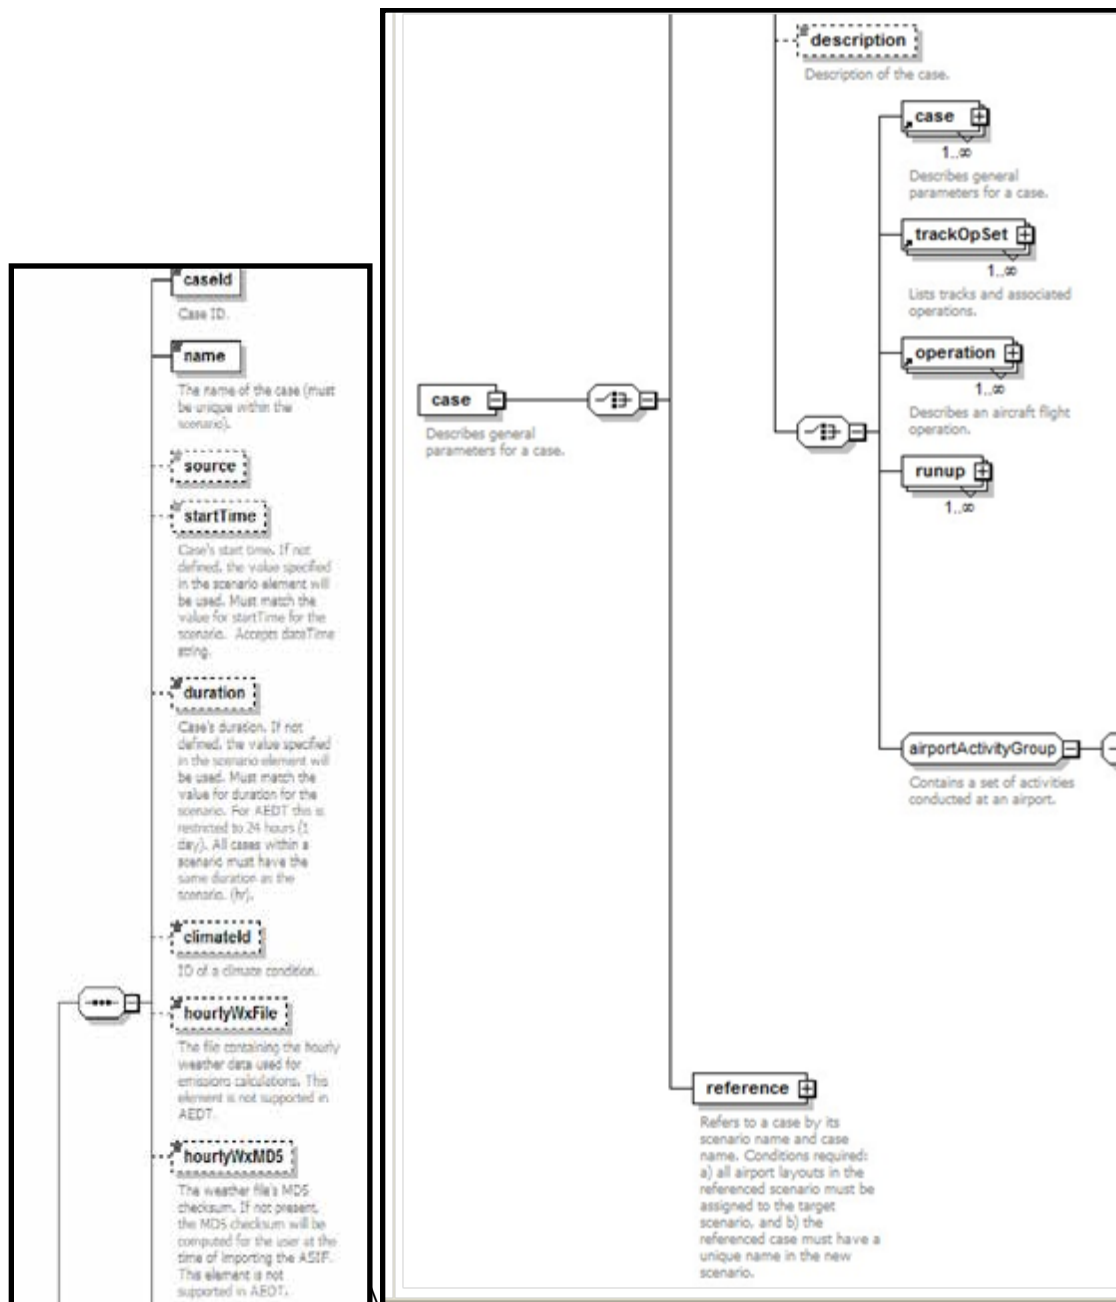

Figure 69. ASIF element – case
13. **AsifXml/study/scenario/case** (Figure 69):